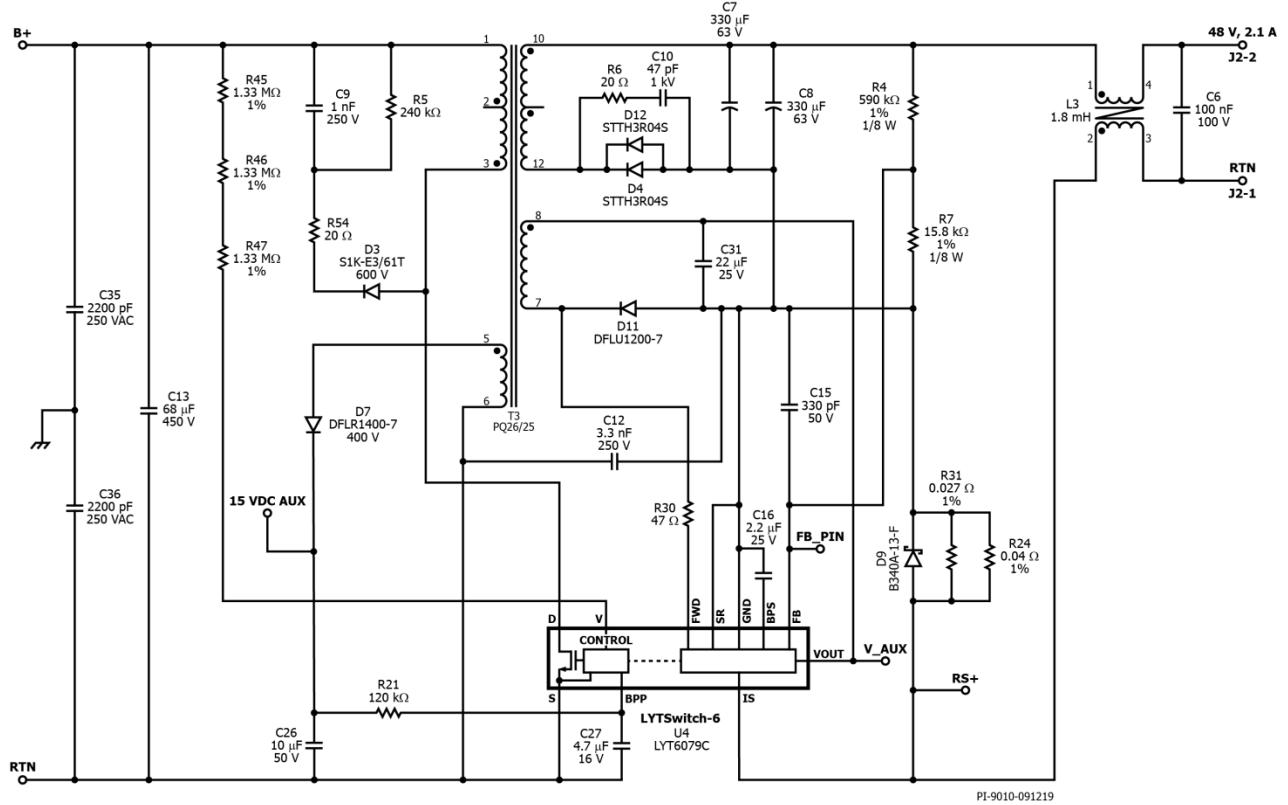

Figure 10 – Schematic, Power Section.
The 3-way dimming control circuit is shown in Figure 10. DIM+ and DIM- are input terminals for three ways of dimming the LED output. Through IS pin, output current from RTN terminal is sensed through R24 and R31 resistors. The voltage signal of these resistors is the input to the non-inverting amplifier U5B. The gain is set at around 261 through R37, R38, and R34 with resulting voltage of around 9 V at full-scale output current. The output of U5B is also the non-inverting input of U5A through R39. The inverting input (pin 2) is supplied with the dimming input type: (1) variable DC supply (0 V – 10 V), (2) variable resistance (0 Ω – 100 kΩ), or (3) variable duty PWM signal (0% – 100%, 100 kHz – 3 kHz).